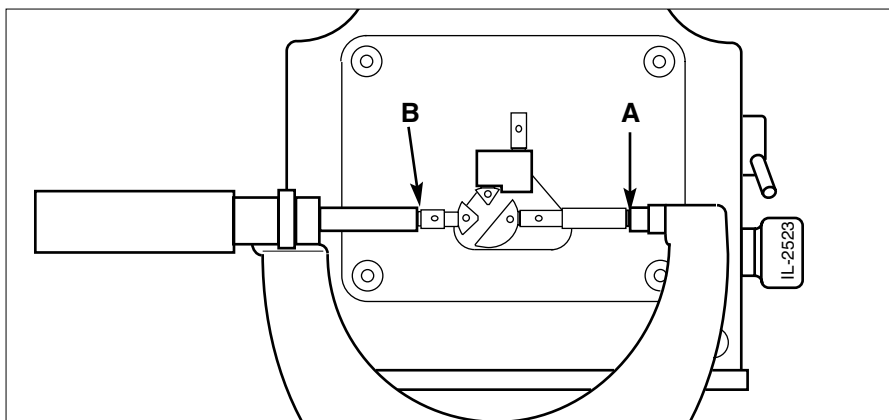

FIGURE 10
1. A micrometer may be used as follows (see Figure 10):